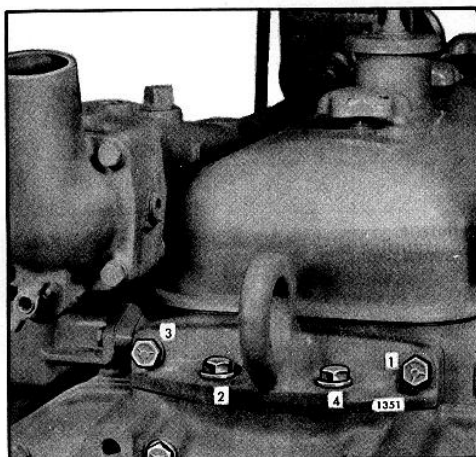

Fig. 14. Lifter Bracket Bolt Tightening Sequence
9. Tighten the two flywheel housing attaching bolts directly below the rear lifter bracket. Install a new gasket and secure the rear engine lifter bracket to the cylinder head and the flywheel housing. Tighten the bolts to 55-60 lb-ft (75-81 Nm) torque. (Fig. 14).